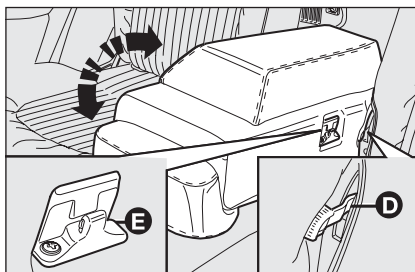

fig. 42
- ☐ operate the lever **D-fig. 42** (one per side)
To arrange the central unit back in vertical position, operate lever **D-fig. 42** again (one on each side) and re-align the unit with the side backrests and make the safety clip **E** click.